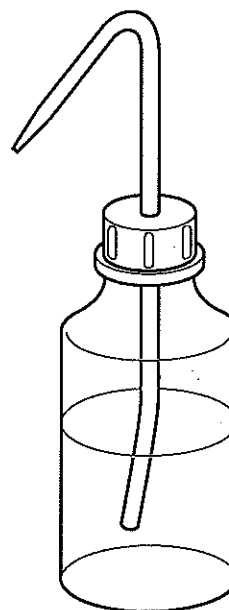

Fig. 3-2
(2) Washing bottle made of polyethylene (Fig. 3-2)